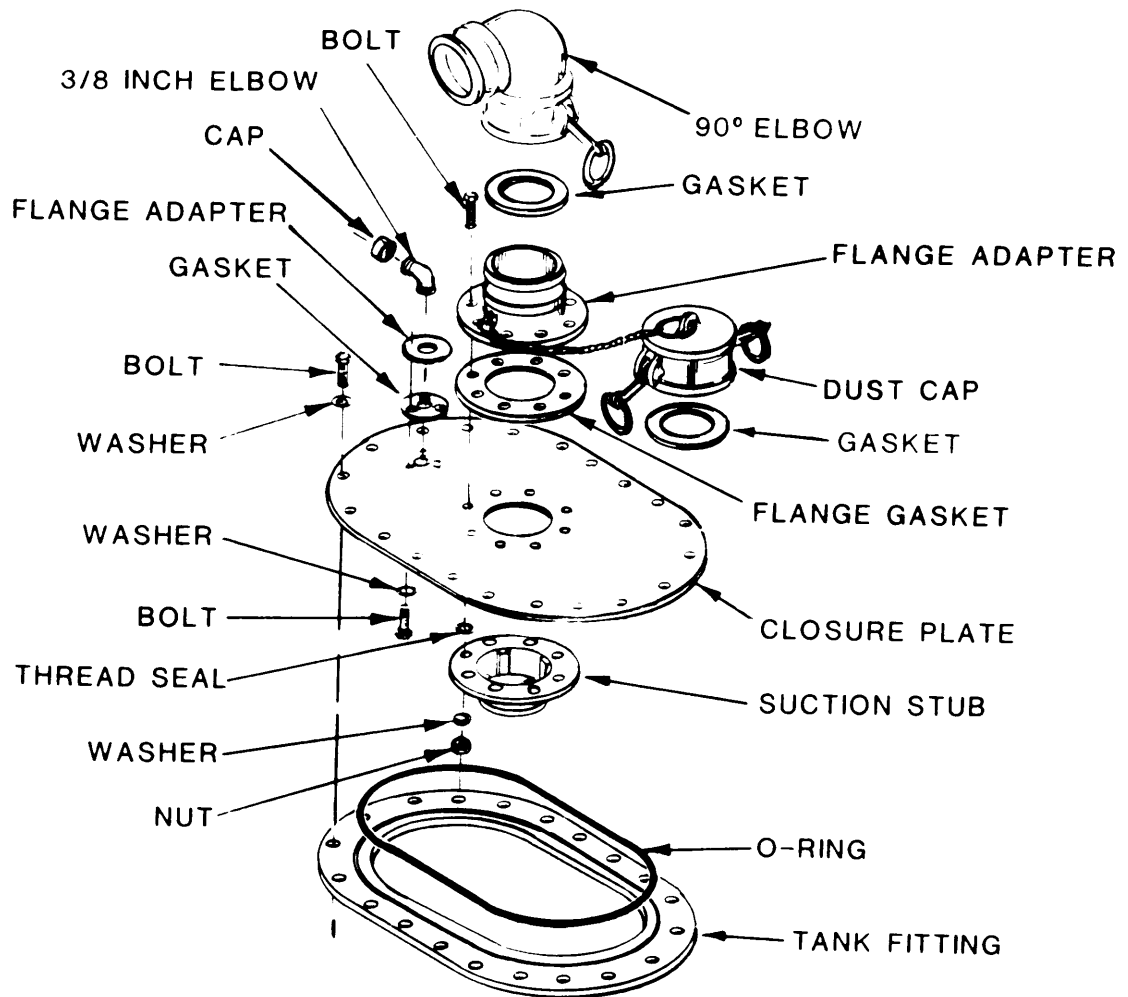

Figure 1-3. Filler/Discharge Assembly
- c. Filler/Discharge Assembly (See Figure 1-3). The filler/discharge assembly consists of a ninety degree (90°) elbow, a flange adapter, a closure plate and a suction stub. A reducer and a four-foot section of 3 inch hose connects the 3 inch gate valve with the filler/discharge assembly. Filling and discharge operations can be made by connecting additional hoses to the unused connection on the gate valve. Dust caps and dust plugs are provided to protect unused connections.